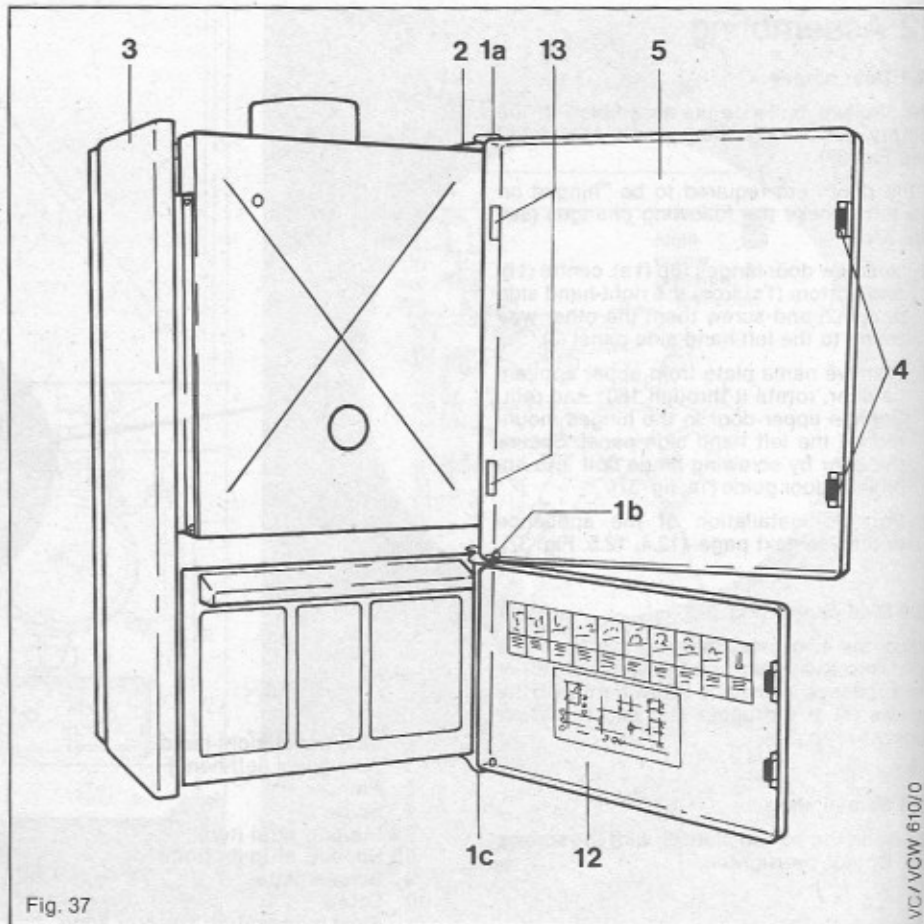

Fig. 37
The Vaillant boiler is pre-assembled in the factory for "doors hinged on the right" (see Fig. 37).
If the doors are required to be "hinged on the left", make the following changes (see Fig. 37).
- Unscrew door hinges top (1 a), centre (1 b) and bottom (1 c) from the right-hand side panel (2) and screw them the other way round to the left-hand side panel (3).
- Remove name plate from upper appliance door, rotate it through 180° and refit. Engage upper door in the hinges mounted on the left hand side panel. Secure the door by screwing hinge bolt into appliance door guide (1 a, fig. 37).
- For the installation of the appliance doors see next page. (12.4, 12.5, Fig. 37).
Position and fix self adhesive user instructions to the inner side of the door as shown on Fig. 37.
### 13.3 Removing outer case (Fig. 37)